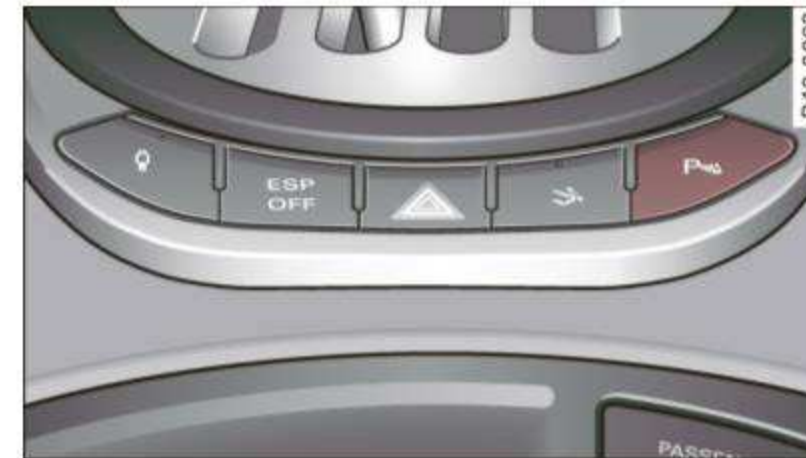

Fig. 73 Section of the center console: Park assist switch
- Press the  switch in the center console ⇒ *fig. 73* to activate the park assist manually. The LED in the switch lights up. ▶
- Press the  switch in the center console ⇒ *page 93, fig. 73* to activate the park assist manually. The LED in the switch lights up. Parking mode 1 appears ⇒ .